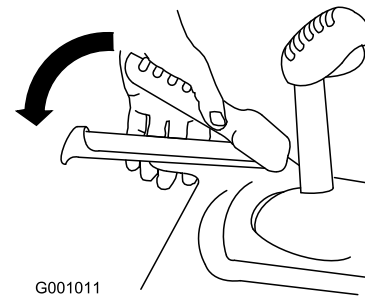

Figure 14
3. Squeeze the left (traction) lever to the handgrip (Figure 14).
6. Squeeze the left (traction) lever to the handgrip (Figure 14).